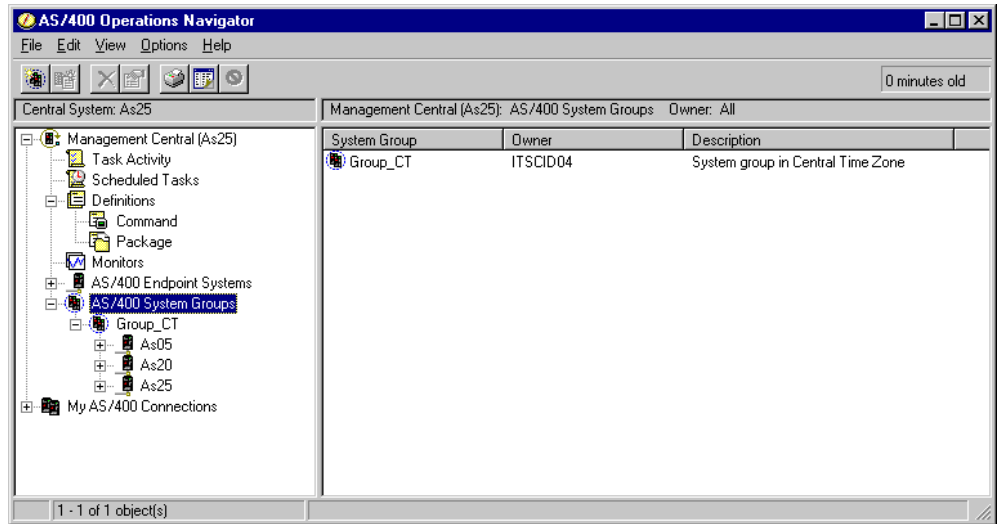

Figure 28. Central time zone system group
- When you are using Management Central, it is important that all systems in the network have the correct QUTCFFSET system value configured. Suppose that you have endpoint systems located in the Central Time zone, and grouped in one system group as shown in Figure 28 on page 46. Make sure that all the endpoint systems have the correct system value.